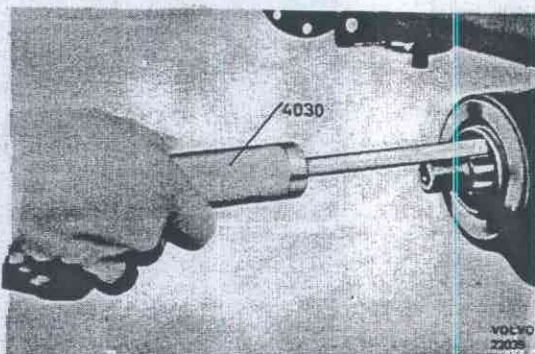

Fig. 46-16. Removing the seal
4. Pull out the seal with 4030, Fig. 46-16.